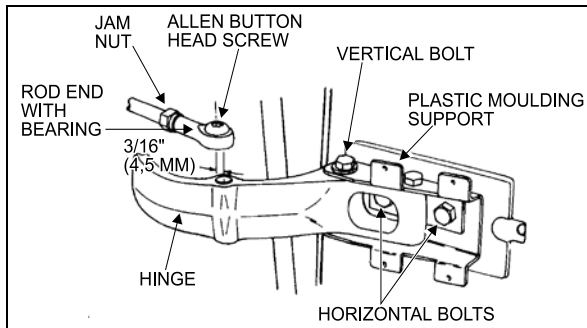

FIGURE 32: UPPER DOOR HINGE
- Remove the Allen button head screw and the washer retaining the rod end with bearing to the upper hinge. See Figure 32.